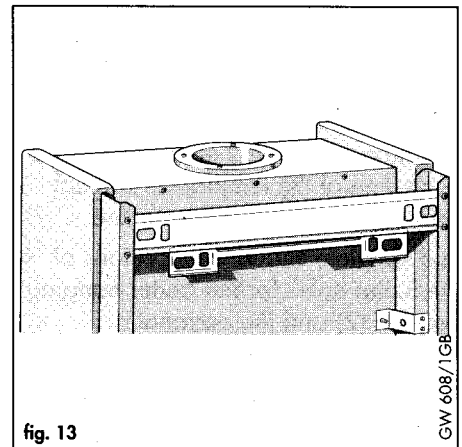

fig. 13
4.5.2 Fitting the boiler (fig. 13)